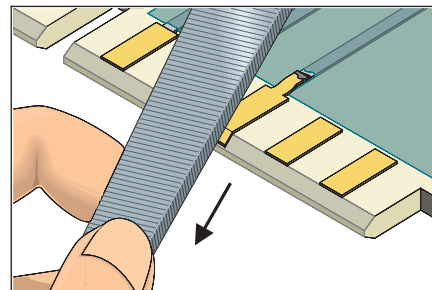

Figure 5 File overhanging piece of new edge contact.
16. Trim the extending edge of the new edge contact with a file. File parallel to the beveled edge until the excess material has been removed. (See Figure 5.)